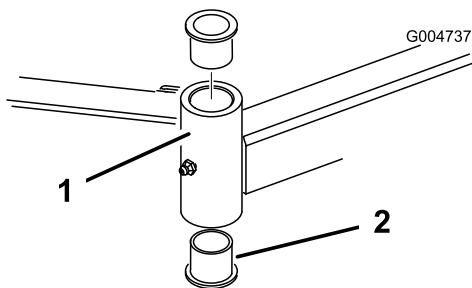

Figure 22
4. Insert a pin punch into the top or bottom of the mounting tube and drive the bushing out of the tube (Figure 22). Also, drive the other bushing out of the tube. Clean the inside of the tubes to remove dirt.